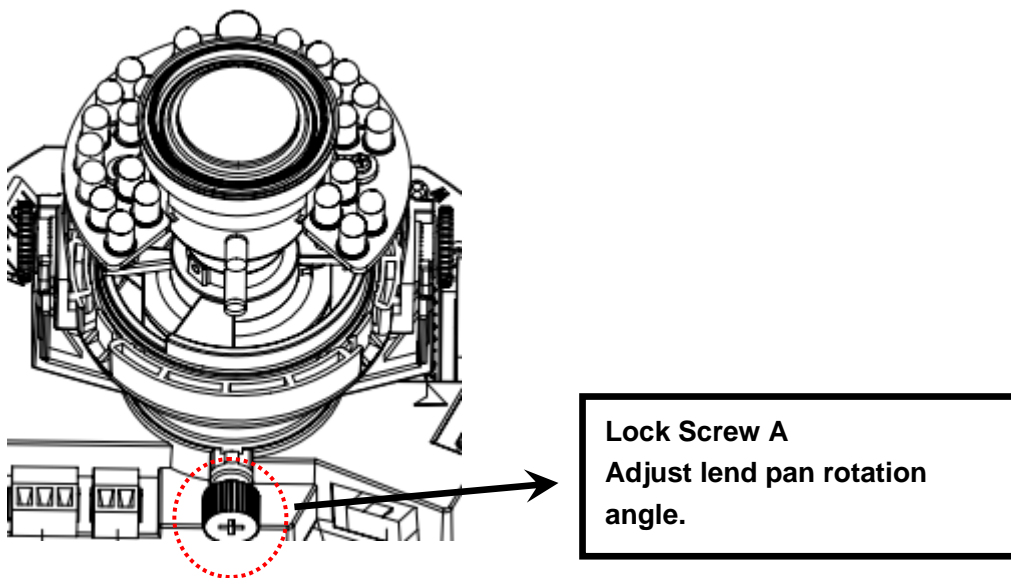
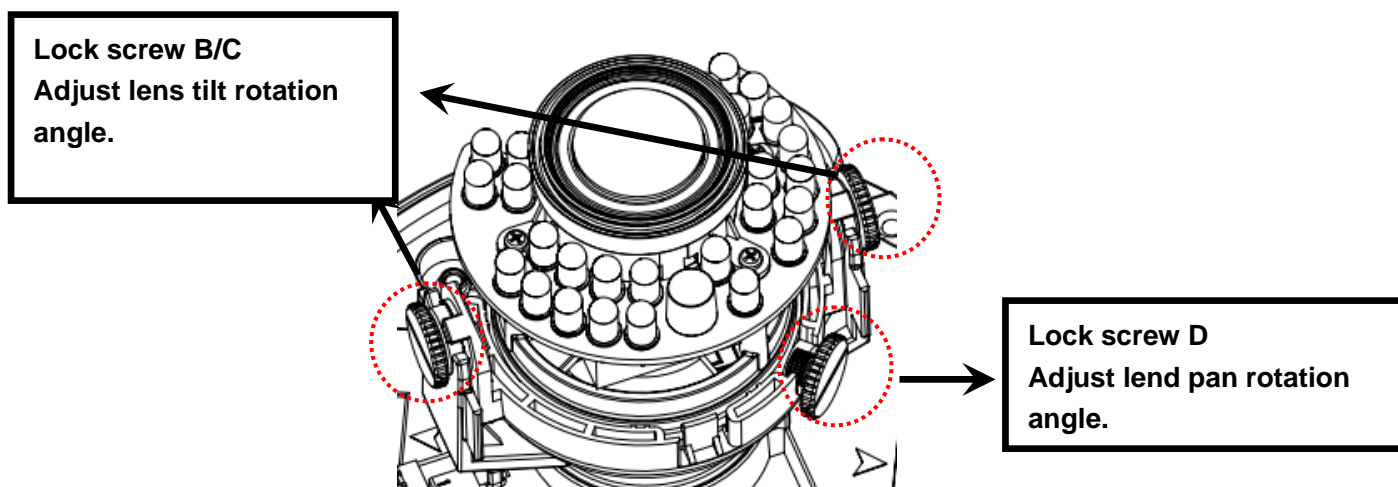

Figure 3-7
Figure 3-8
b) Lens pan rotation angle setup. Please refer to Figure 3-7 to unfasten the lock screw A and adjust the pan monitor angle to the proper position. Then fix the lock screw A. The pan angle ranges from 0°~+350°.
c). Lens tilt rotation angle. Please refer to Figure 3-8 to unfasten the lock screw B and lock screw C and adjust the tilt monitor angle to the proper position. Then fix the lock screw B and lock screw C. The tilt angle ranges from -23°~+73°.
d). Image pan rotation angle setup. Please refer to Figure 3-8 to turn lock screw D to adjust the video pan angle. Then fix the lock screw B and C. The video pan angle ranges from 0°~+350°.
Please note Figure 3-7 and Figure 3-8 is based on the IR manual varifocal camera. For the non-IR series product, the lock screw position and the lens angle adjustment are the same.